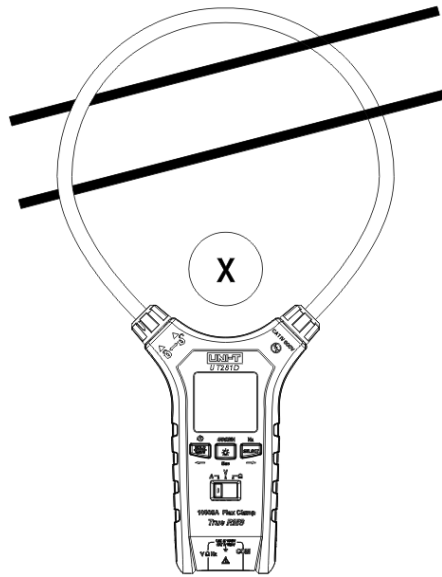

Figure 2.3
- 3) The meter can only measure one current conductor at a time. If measuring two or more current conductors simultaneously, the measurement reading will be incorrect. (see Figure 2.3)